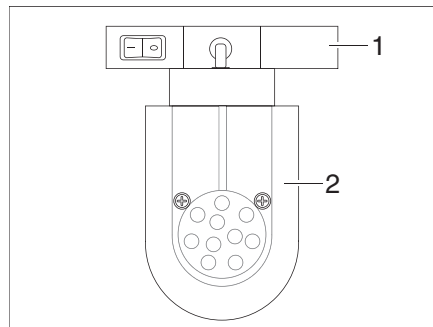

Fig. 131 LED spot light (example)
- Grasp the holder (Fig. 131,1) and turn it 90°.
- Remove the LED spotlight (Fig. 131,2) from the rail system.
- Insert the LED spotlight (Fig. 131,2) into the rail system at the desired position and turn 90°.